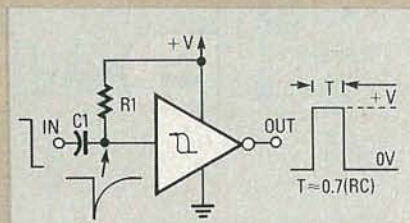

FIG. 2—THIS TRAILING-EDGE DETECTOR circuit also has a positive output pulse.
used, or a negative-going output pulse with an inverting Schmitt. In either case, the output has a period (T) of roughly $0.7(RC)$. Figure 2 is a similar circuit that is set up as a trailing-edge detector.